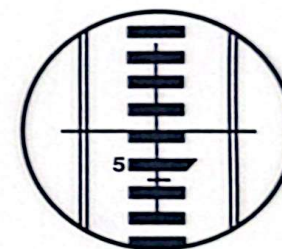

Fig.4.7
- 3) Use the horizontal fine motion screw ⑧ to center the target in the field of view. Turn the 2-speed focussing knob ⑩ to focus on the target. (Fig.4.7)